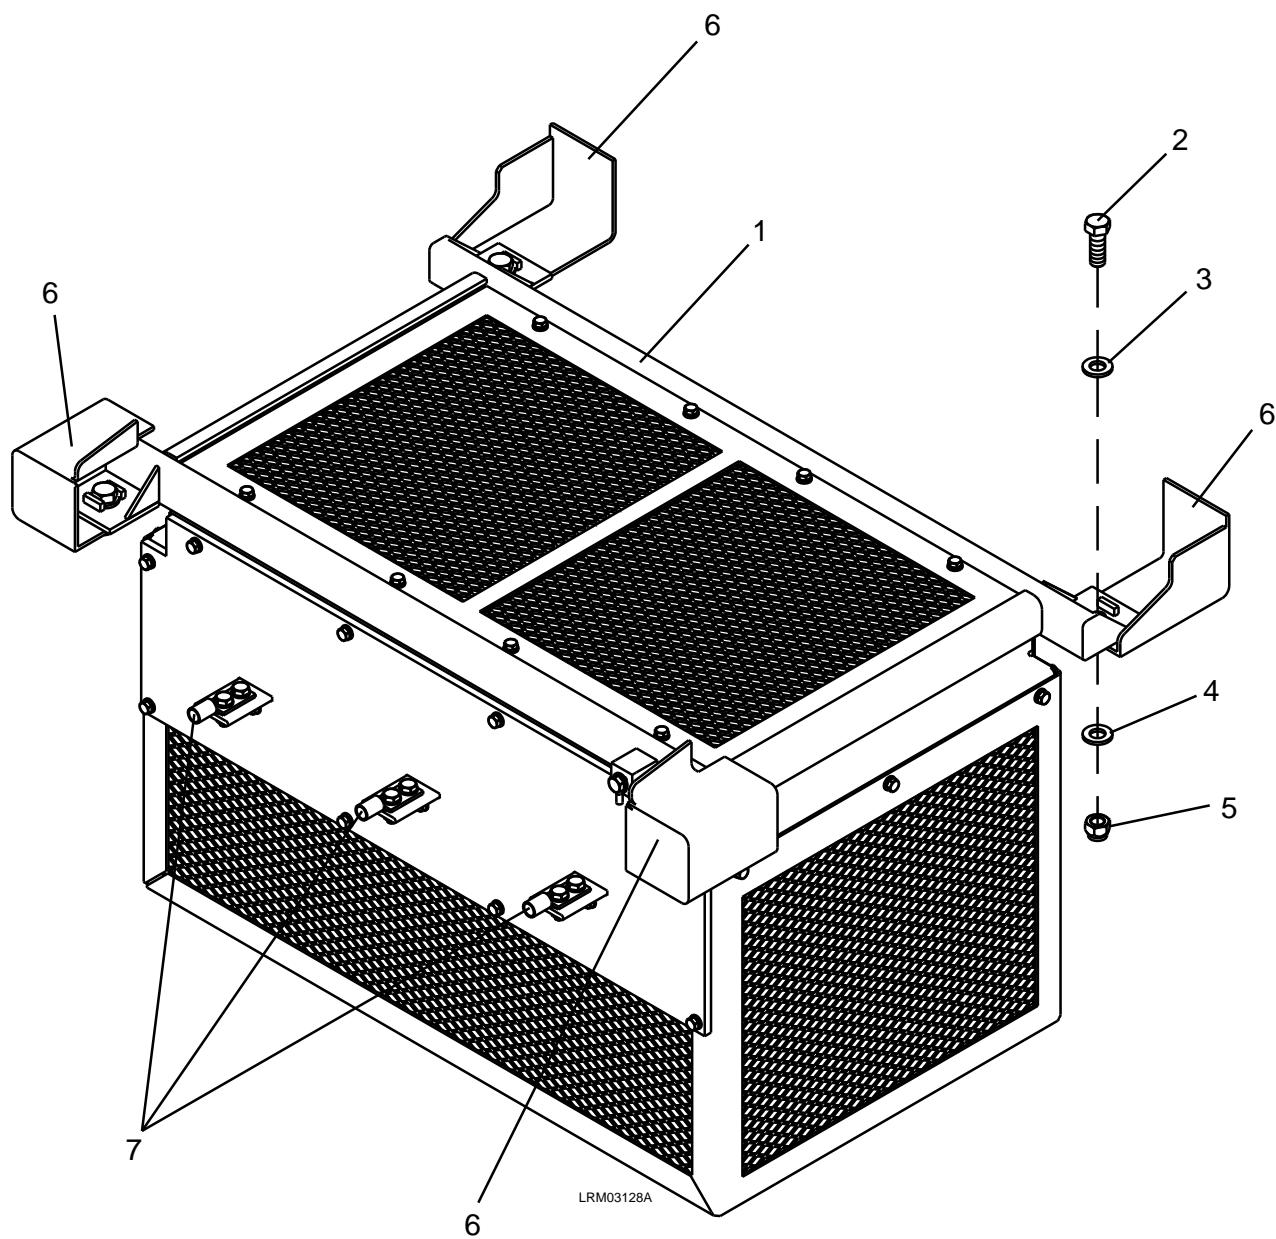

Figure 7-114: Line Reactor
1. Disconnect the 3/8-16 electrical connections (7) to the Line Reactor (1).
2. Remove the four M16 ESNA nuts (5) and M16 plain washers (4), M16 x 45 bolts (2), and M16 plain washers (3). See Figure 7-114.
3. Carefully remove the Line Reactor (1) from the mounting brackets (6). Refer to Section 0700, Propulsion of the Heavy Repair Maintenance Manual for additional information.